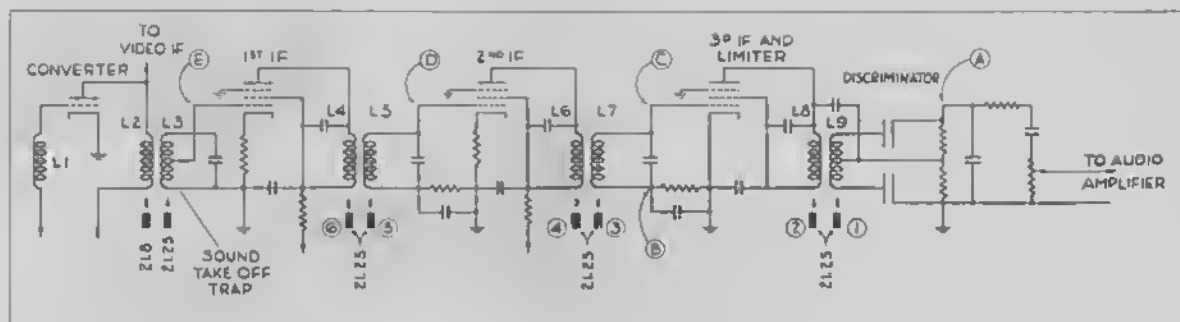
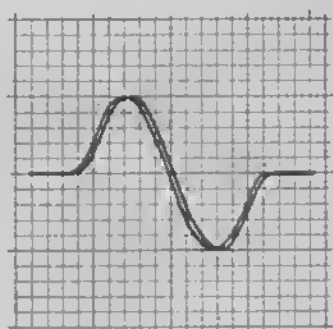
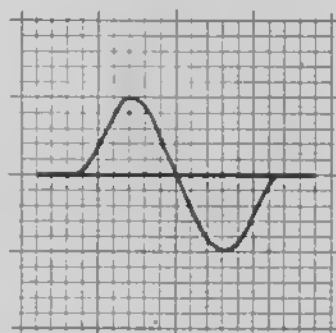
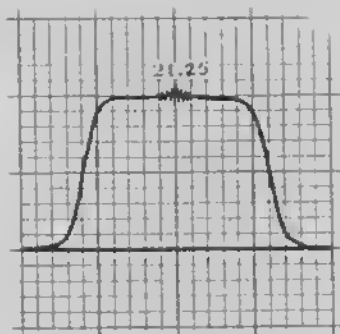

FIG. 11. TYPICAL TV SOUND I-F SYSTEM
FIG. 12. DISCRIMINATOR RESPONSE - IN PHASE - BLANKING OFF
FIG. 13. DISCRIMINATOR RESPONSE — BLANKING ADJUSTED
FIG. 15. SOUND IF RESPONSE
Figure 11 is the schematic diagram of a typical sound i-f system composed of three i-f amplifier stages and a discriminator. The third i-f stage acts as a limiter to reduce the effects of amplitude modulations.
1. Connect the GENESCOPE OUTPUT cable between point "G" of figure 11 and ground. Use a 75 ohm, 300 ohm, or open termination as desired. See table 2 for data on the termination connections. Use the series condenser (do not jumper terminals 1 and 6).
2. Connect the VERTICAL INPUT cable between point "A" of figure 11 and ground.
5. Advance VERTICAL GAIN until the pattern is about one inch high. The pattern will be two S-shaped response curves. Adjust the PHASING control to bring the curves in phase as shown in figure 12.
6. Adjust F.M. SWEEP so the response curve covers most of the horizontal trace as shown in figure 12. Readjust the PHASING if the traces are not superimposed. If the response curve is not centered on the trace, reset the CENTER FREQUENCY pointer to center the pattern. Advance the BLANKING control to produce a pattern as shown in figure 13; a single curve with a base line through it.
10. Adjust the discriminator secondary (L9 in figure 11) until the 400 cycle pattern disappears and then reappears if the adjustment is continued in the same direction. Be sure to make this adjustment to the exact null point with the SIGNAL ATTENUATORS set low to avoid a broad response due to a high signal amplitude.
11. Adjust the discriminator primary (L8 in figure 11) until a maximum amplitude symmetrical pattern is achieved as shown in figure 13. Reduce the F.M. ATTENUATORS as the amplitude of the curve increases. Recheck the secondary adjustment if the 400 cycle pattern re-appears.
12. Move the OUTPUT cable to the grid of the next preceding stage (point D in figure 11).
13. Move the VERTICAL INPUT to the grid of the limiter (point C in figure 11).
14. Turn the SIGNAL switch to UNMOD. R.F. and adjust the F.M. and SIGNAL ATTENUATORS to obtain an i-f response curve similar to figure 15. The curve may be distorted until the next adjustment has been made.
15. Adjust L7 and L6 of figure 11 for a symmetrical response of maximum height similar to figure 15. The marker should appear at the center. Keep the F. M. ATTENUATORS set as low as possible to avoid overloading and keep the SIGNAL ATTENUATORS low to avoid distortion of the response curve at the marker point.
16. Connect the OUTPUT cable to the grid of the next preceding stage (point E of figure 11). Adjust L5 and L4 for a symmetrical response curve of maximum height as in step 15 above.
1. Connect the VERTICAL INPUT cable across the output of the demodulator stage (point "A" in figure 11).